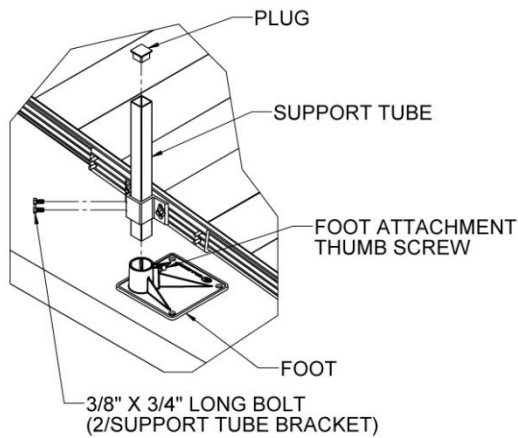
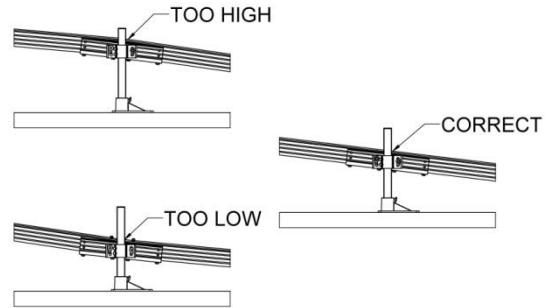

FIG. 3.7
FIG. 3.8
- 3.3.3. Start two each 3/8" x 3/4" bolts without washers into the threaded holes on each support tube bracket. DO NOT TIGHTEN (FIG. 3.7).
- 3.3.4. Locate MSTsxxPR (FEET AND SUPPORT TUBE PAIRS). Place a foot under each support tube bracket, then slide the support tube through the support tube bracket and into the foot. Make sure the support tube is fully engaged into the foot and that the foot is oriented so it extends under the ramp. Tighten the thumb screw on each foot securely (FIG. 3.7). **NOTE:** If installing on soft soil it may be necessary to set the foot on a concrete pad.
- 3.3.5.2. Place a plug into the top of each support tube (FIG. 3.7). **NOTE:** Adjusting sections can be accomplished by having someone sight down the ramp while another person adjusts the ramp height. **IMPORTANT:** Ensure that the ramp sections are parallel to each other. If they are not, it may be difficult to install the handrails (FIG. 3.8).